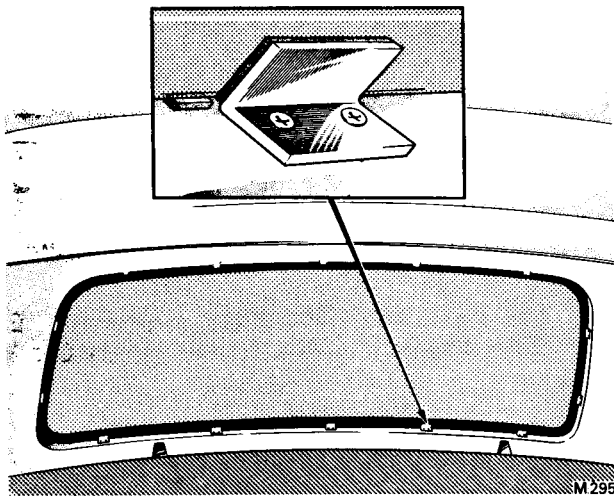

FIG. S46 REAR WINDOW RETAINING BRACKETS (Long Wheelbase Saloon Cars)
7. With the glass held firmly onto its seat (do not apply excessive pressure or the glass will break), fit the fourteen angled brackets to secure the glass in the aperture; ensure that each bracket is complete with its rubber buffer pad and that this pad is adjacent to the glass when fitted (see Fig. S46).